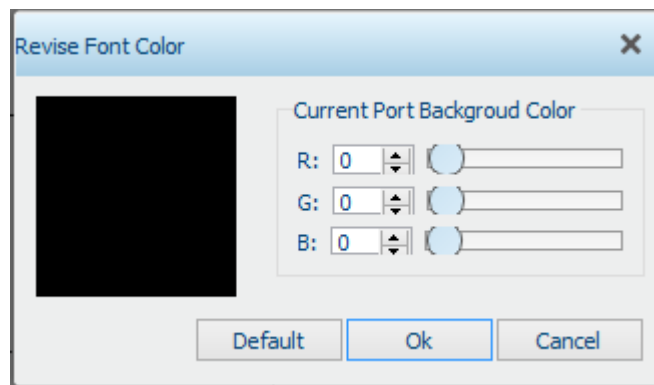

Figure 29: Inputtext colour choice
- To bring up the menu as shown above in figure 29, right click on any input and click the option Colour Setting. You can then use the sliders to select an appropriate colour for the font of that input, an extra tool to help in system organisation. At any point you can press the default button to return the font colour to black